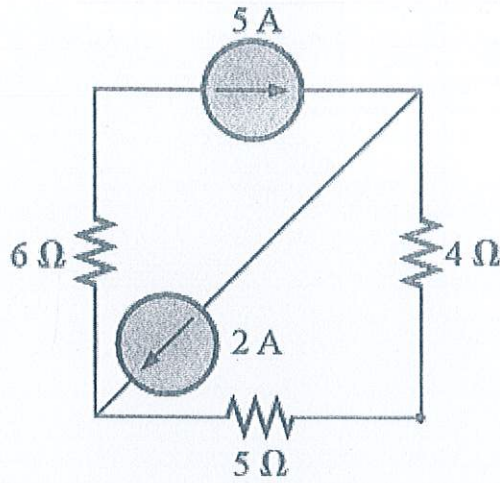

Figure 6
6. Calculate the power of all five elements of the circuit of figure 6. [25]